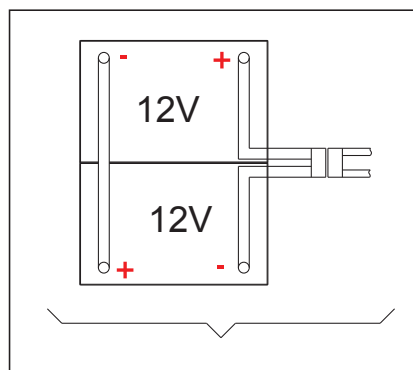

FIGURE 4
This machine requires two (2) 12V batteries. Either wet or GEL / AGM batteries can be used. Please connect as shown in Figure 4 to the right.
1. Check the batteries. Ensure the connector (9) is connect to the battery pack.
2. Press the on / off switch (41) into the "on" position. If the green light is on, that indicates the batteries are ready for use. If the amber or red light is on, that indicates the batteries need charging. (Please refer to the section on maintenance for related procedures)